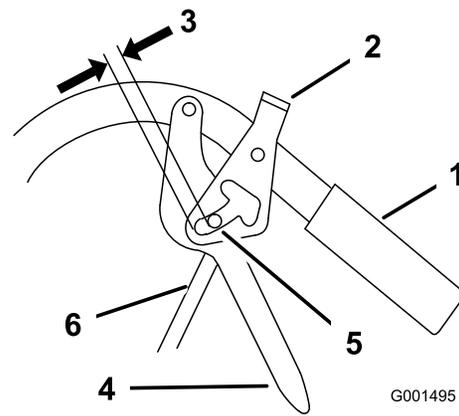

Figure 45
2. Adjust the control rod length by threading the rod in or out of the rod fitting until there is a 3/16 to 1/4 inches (5 to 6 mm) clearance between the control rod and the bottom of the neutral/parking brake lock (Figure 45).
3. Install the control rod to the drive lever and the neutral/parking brake lock. Secure the control rod with a clevis pin and a hairpin cotter (Figure 45).